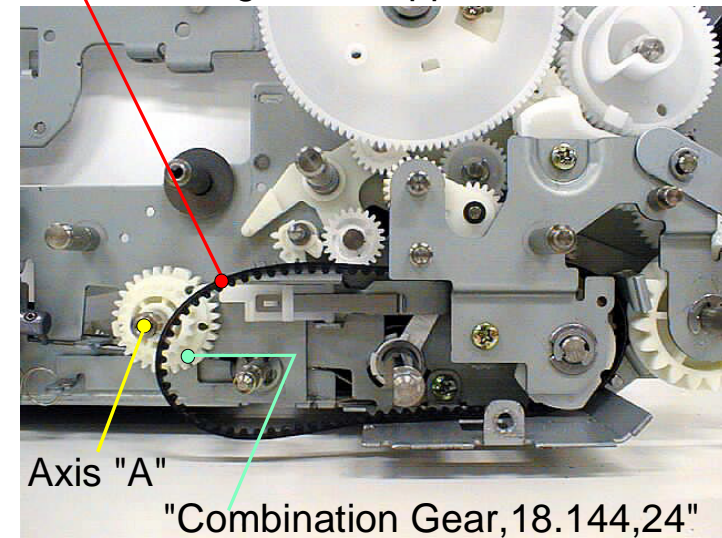

Figure 4-92. Installing "Combination Gear,18.144,24"
8. Remove one side of "Timing Belt, Hopper", which was hang on axis "A" temporarily, and insert "Combination Gear,18.144,24" into the axis. (Refer to Figure4-92)